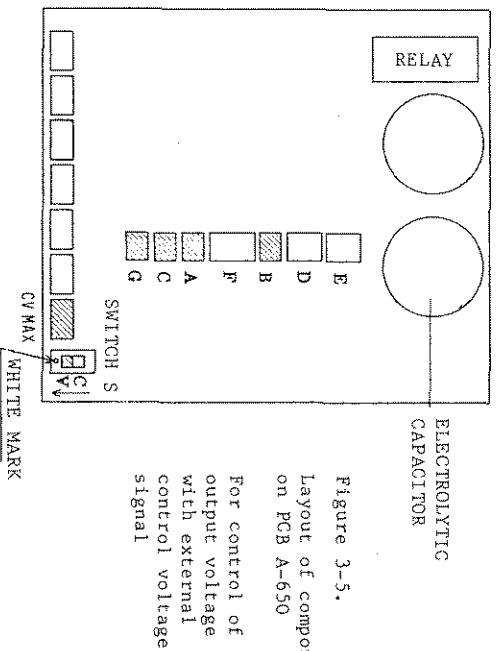
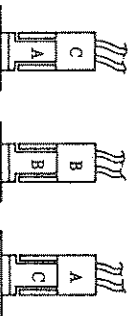
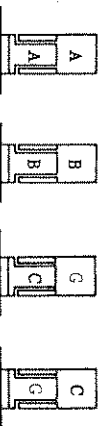

Figure 3-5.
Figure 3-6
Figure 3-8
- (3) Throw switch S on PC board A-650 to the white mark side. (See Figure 3-5.)
- (4) Carefully install the PC board.
- (5) Connect the external control voltage signal (E1) to between terminals (4) and (5) of the rear terminal block, with terminal (5) for the positive polarity line.
- (6) Throw the R/L (remote/local) selector switch to the R position.
- (7) Remove the knobs of the COARSE and FINE VOLTAGE setting potentiometers and install the guard caps to make them a semi-fixed type so that they are protected against inadvertent change. (See section 2-1, (10).) (The PAB110-0.6A, PAR250-0.25A and PAR350-0.1A have no FINE VOLTAGE setting potentiometer. Provide a guard cap only for the COARSE VOLTAGE setting potentiometer.)
- (8) Turn on the POWER switch and the OUTPUT switch. Adjust the semi-fixed potentiometers on the front panel so that the output voltage for the 10 V of external control voltage signal becomes the required voltage.
- (1) Disconnect the input power cord. Remove the cover referring to Section 4-1-3. Remove PC board A-650.
- (2) Change the connections of connectors A, B and C as shown in Figure 3-6. (See Figures 3-5 and 3-3.)
- (3) Connect external resistance signal R1 ($0 \leq R1 \leq 10 \text{ k}\Omega$) between terminals ④ and ⑤ of the rear terminal block.
- (4) Throw the R/L (remote/local) selector switch on the front panel to the L position.
- (5) Turn the FINE VOLTAGE setting potentiometer to the counter-clockwise extreme position. Remove the knob of the potentiometer and install the guard cap. (See Item (10) of Section 2-1.) (This procedure is not needed for the PAB110-0.6A, PAB250-0.25A and PAB350-0.1A which have no FINE VOLTAGE setting potentiometer.)
- (6) Exercising care so that the PC board is not contacted with the chassis, turn on the POWER switch and the OUTPUT switch.
- (7) The output voltage of the instrument is with a slight negative offset voltage (several tens to several hundreds millivolts) when the external resistance signal (R1) is zero.
(8) Set the external resistance signal (R1) to 10 kΩ. Adjust potentiometer CV MAX on PC board A-650 so that the output voltage becomes the maximum rated voltage. This procedure is "full-scale adjustment." (See Figure 3-5.)
(9) Carefully install the PC board and the cover.
(10) Post the following seal on the transparent cover above terminals ④ and ⑤:
- (2) Change the connections of connectors C and G on PC board A-650 as shown in Figure 3-8. (Refer to Figures 3-5 and 3-3.)
- (3) Connect the external resistance signal (R1) between terminals ④ and ⑤ of the rear terminal block.
- (4) Throw the R/L switch on the front panel to the L position.
- (5) Throw switch S to the white mark position. (See Figure 3-5.)
- (6) Turn the FINE VOLTAGE setting potentiometer to the counter-clockwise extreme position, remove its knob, and install the guard cap. (See Item (10) of Section 2-1.) (This procedure is not needed for the PAB110-0.6A, PAB250-0.25A and PAB350-0.1A which have no FINE VOLTAGE setting potentiometer.)
- (7) Paying attention so that the PC board is not contacted with the chassis, turn on the POWER switch and the OUTPUT switch.
- (8) Set the external resistance signal to zero and adjust potentiometer CV MAX on PC board A-650 so that the output voltage becomes the maximum rated voltage.